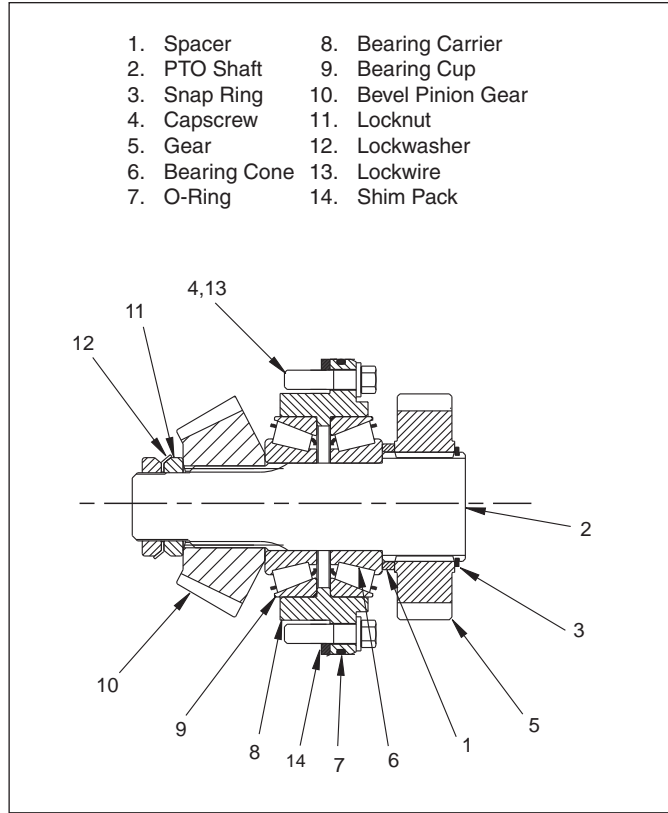

Figure 4-4 PTO Shaft for Komatsu D85ESS-2
Please refer to Figures 4-4 and 4-5. Before removing the PTO shaft assembly, the winch must be removed from the tractor as explained above in **Winch Removal**.
4. Disassemble and inspect PTO shaft (refer to Figures 4-4 and 4-5).